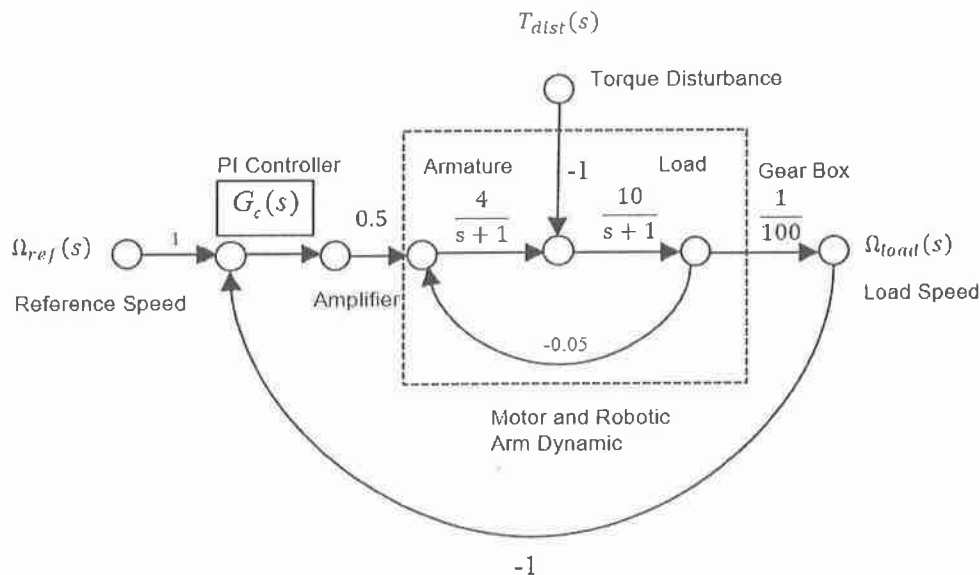

Figure Q1.1: Servomotor Positioning System
Consider the block diagram of the servo-control system for one of the joints of a robot arm, shown in Figure Q1.1, where the input is the reference angular velocity (speed) for the robot arm,  $\Omega_{ref}(s)$ , the output is the actual load velocity of the arm,  $\Omega_{load}(s)$ , and the forward path contains a Proportional + Integral (PI) Controller, a calibration gain, motor and robotic arm dynamics and a gearbox. The Proportional + Integral (PI) Controller is described as shown, with the Integral Time constant,  $\tau_i$ , equal to 0.1 seconds:
Consider, once again, the servo-positioning system under Proportional + Integral (PI) Control from Question 1, shown in Figure Q1.1. No disturbance signal is present. The Controller Operational Gain value was set to  $K_{op} = 3.0$ , and then the system open loop and closed loop transfer functions,  $G_{open}(s)$  and  $G_{cl}(s)$ , were found to be as follows:
Consider, once again, the same servo-positioning system under Proportional + Integral (PI) Control from Question 1, shown in Figure Q1.1. The system is to exhibit zero steady state error to a unit step and the steady state error to a unit ramp is to be:  $e_{ss(ramp)} = 0.5 V/V$ .